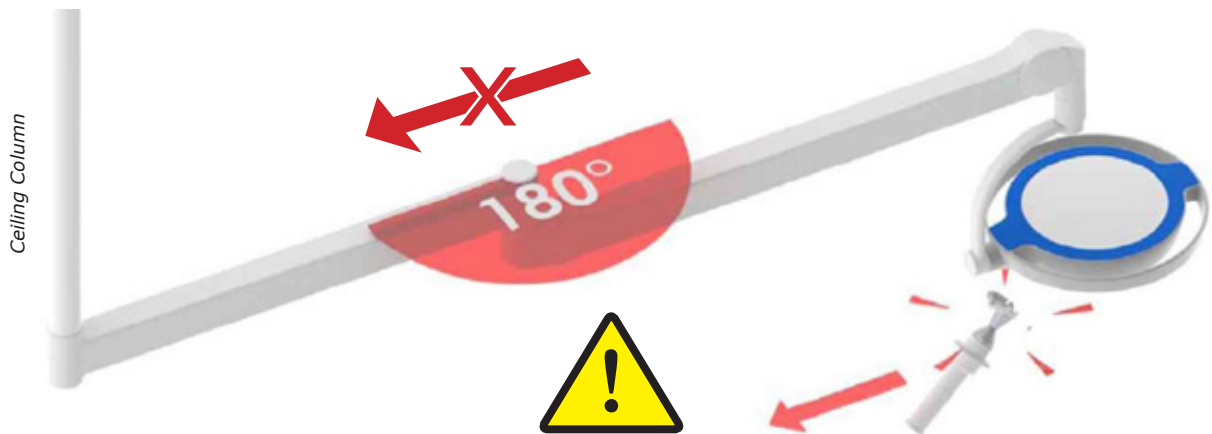

Fig. 9a
- 4.0.1 When the spring arm and the extension arm are positioned at 180° to each other (Fig. 9a), the attachment cannot be moved in the direction of the ceiling column. Repeated exertion of force of > 25 N (acc. to DIN EN 60601-2-41) may cause damage to the attachment.